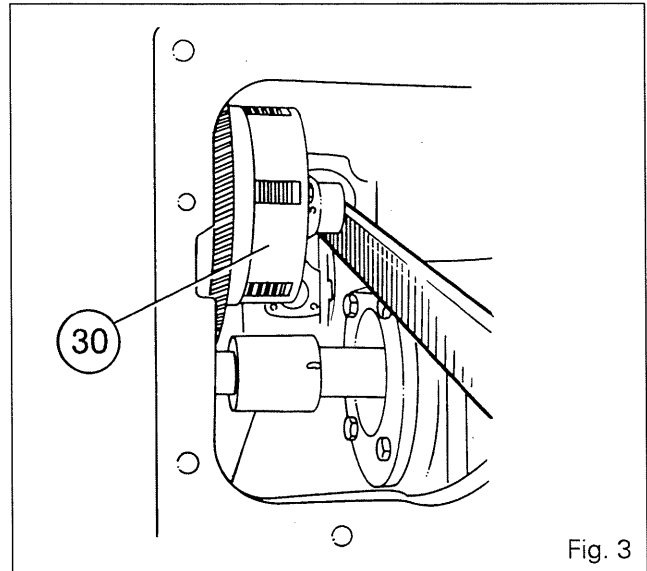

Fig. 3
13. Refit the clutch using a lever (Fig. 3) to compress spring (43).
14. Remove the tool and make sure that the tube (37) is correctly engaged in the sleeve groove (33).
19. If work is required on the seals (34), (36) and (39), reinstall the cab and refit the front and rear support bolts.